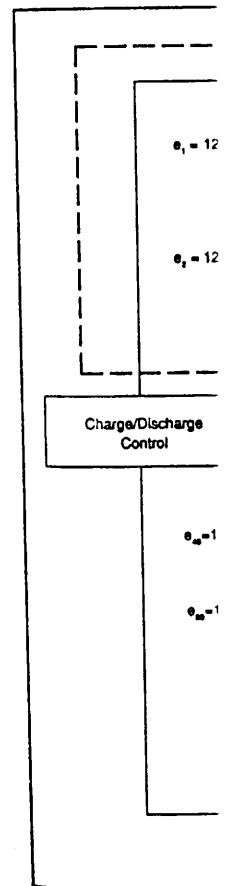

FIGURE 4. Battery Mo
NOTES: (1) Including internal reference. (2) Span is the change in output current resulting from a full-scale change in input voltage. (3) Within compliance range limited by $(+V_{CC} - 2V) + V_{DAS}$ required for linear operation of the FET. (4) For V_{REF} adjustment circuit see Figure 4. (5) For extended I_{REF} drive circuit see Figure 8. (5) Unit may be damaged. See "Input Voltage Range" on next page.